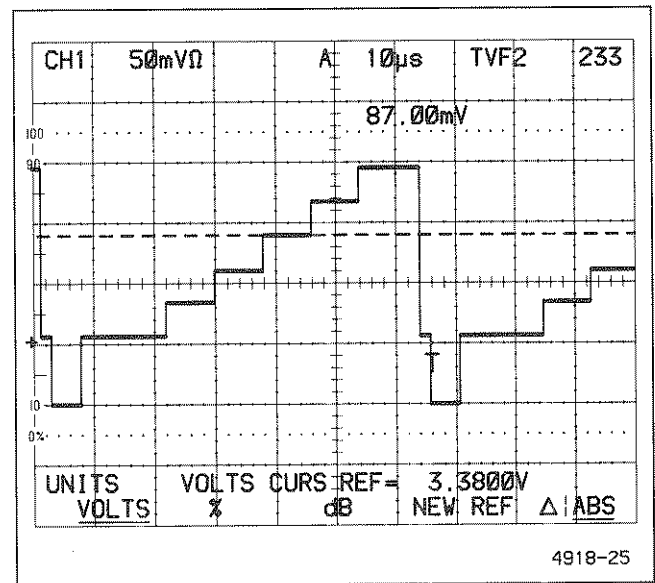

Figure 6-11. Voltage measurement of a step on a stair-case signal using the VOLTS cursor function in the ABS mode.
4. Read the voltage level of the waveform (at the cursor) with respect to ground from the cursor readout (see Figure 6-11).